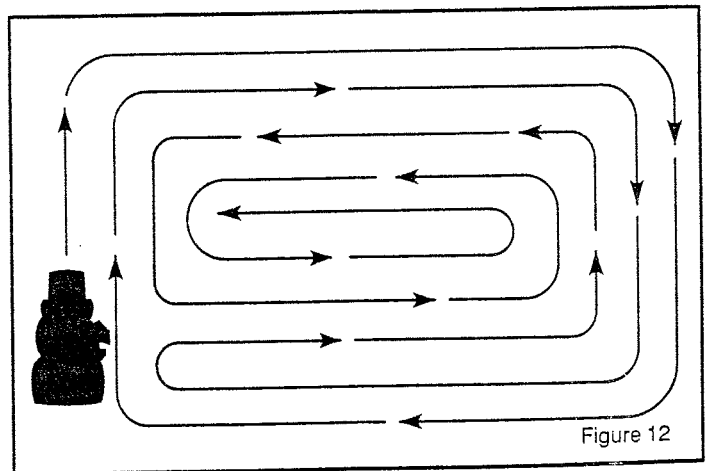

Figure 12
8. When you mow large areas, start by turning to the right so that the cut grass will discharge away from shrubs, fences, driveways, etc. After one or two rounds, mow in the opposite direction making left turns until finished (Figure 12).